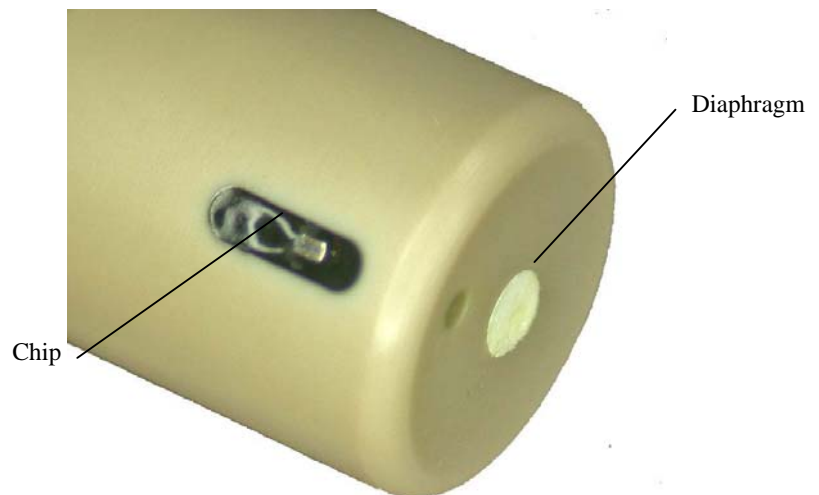

Figure 6-1. Tip of the CS525 Probe
1. Place the tip of the probe in soapy water that is 50° to 60°C and soak for about 5 minutes (see Figure 6-1).